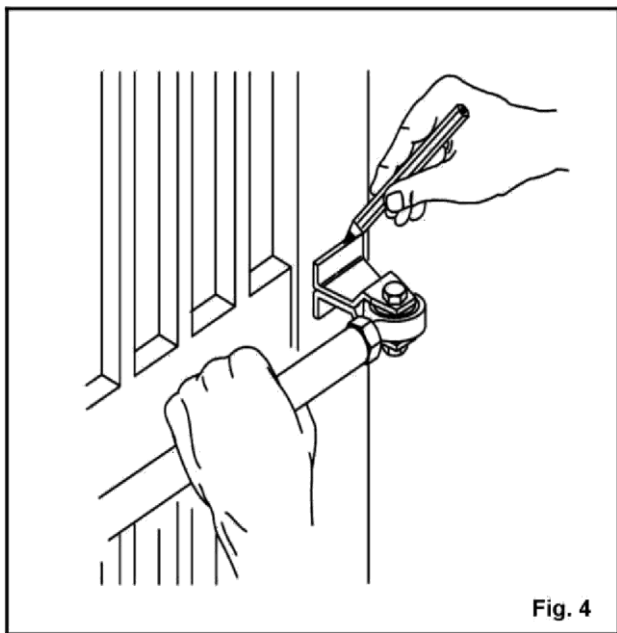

Fig. 4
G) Mount the front linkage on the stem (Fig. 4);
H) Close the gate leaf and locate the position of the front linkage on the leaf, keeping the actuator in a completely horizontal position (Fig.4).